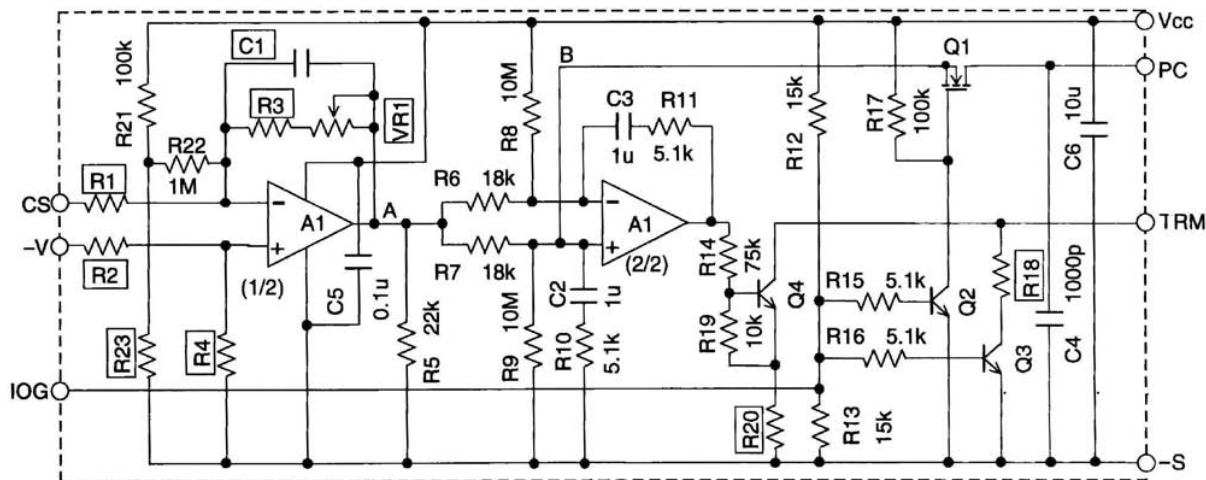

Figure3-2 Control Circuit fo Parallel Operation
Basic circuit connection is shown in Figure3-1. For control circuit of parallel operation, individually connect a circuit shown in Figure3-2 to each PH300S, 600S series of power module of parallel operation.
(2) Terminal Explanation of Figure3-2
For CS terminal voltage is a small voltage in negative polarity, Op-Amp A1 (1/2) is amplifier inverting shown as Figure3-2. For all of PH modules to be in parallel operation, VR1 shall be adjusted to equalize with the voltage at A point at full load. Setting voltage of A point is 3V to 5V, and the setting accuracy is within ±2%. Voltage adjustment of A point can be adjusted with PC terminal of open circuit.
For choosing capacitor(s), refer to values expressed in Figure3-2 and values for each component shown in Table3-2. Use film capacitor or ceramic capacitor which has good temperature characteristics.
For choosing capacitor(s), refer to values expressed in Figure3-2 and values for each component shown in Table3-2. The tolerance shall be less than  $\pm 5\%$ .